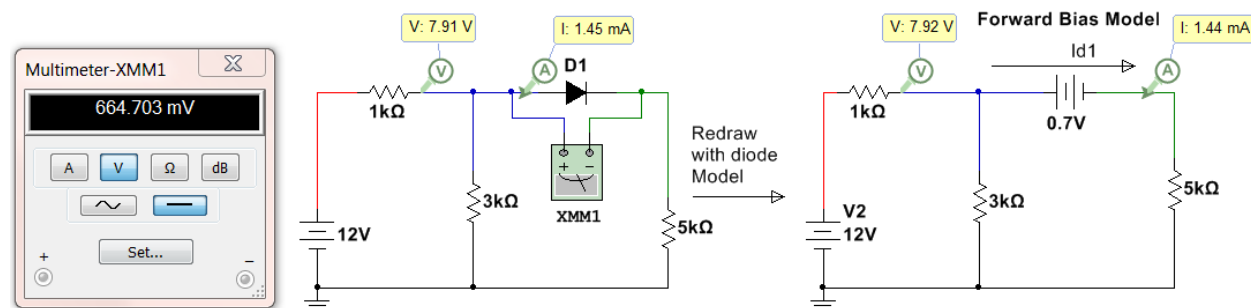

Figure 6.6: Circuit for Example 6.3
Step 2) The circuit on the right side of Figure 6.6 shows the forward bias model replacing the diode. **The node where the anode was connected is connected to the + side of the battery.** 0.7 V is used for the battery voltage because the problem stated it is a silicone diode. Next, calculate the current, I_{D1} . The mesh matrix method used in the DC Circuits eBook will be used.
- Solving this matrix yields $I2 = I_{D1} = \underline{1.44 \text{ mA}}$ (This is verified in Multisim in the right circuit of Figure 6.6)
- Note:** The actual diode voltage is shown in Multimeter XMM1 to be 664.703 mV. The 0.7 V diode drop assumption yielded a slightly different result than the actual values (shown in the left circuit in Figure 6.6).